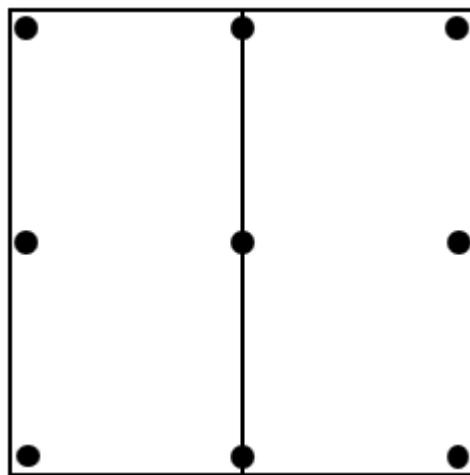

Figure 8.1: Designated Landing Zone Configuration with Stakes
3. Surface staked into the ground with a minimum of nine **(9)** stakes (Figure 8.1). Intent is a stake every four **(4)** ft. Stakes are eight **(8)** inch or longer, metal, and fully embedded into the ground.